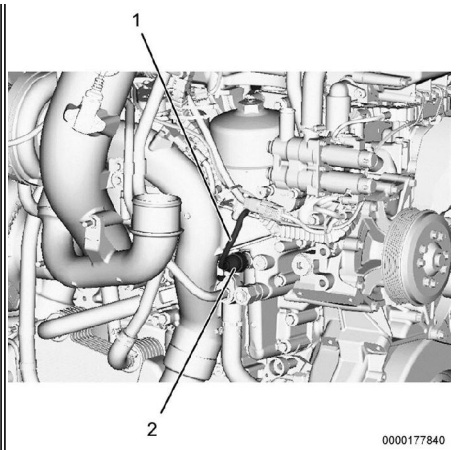

Figure 4: Engine Oil Pressure (EOP) Sensor.
12. Disconnect connector (Figure 4, Item 1) from EOP sensor (Figure 4, Item 2).